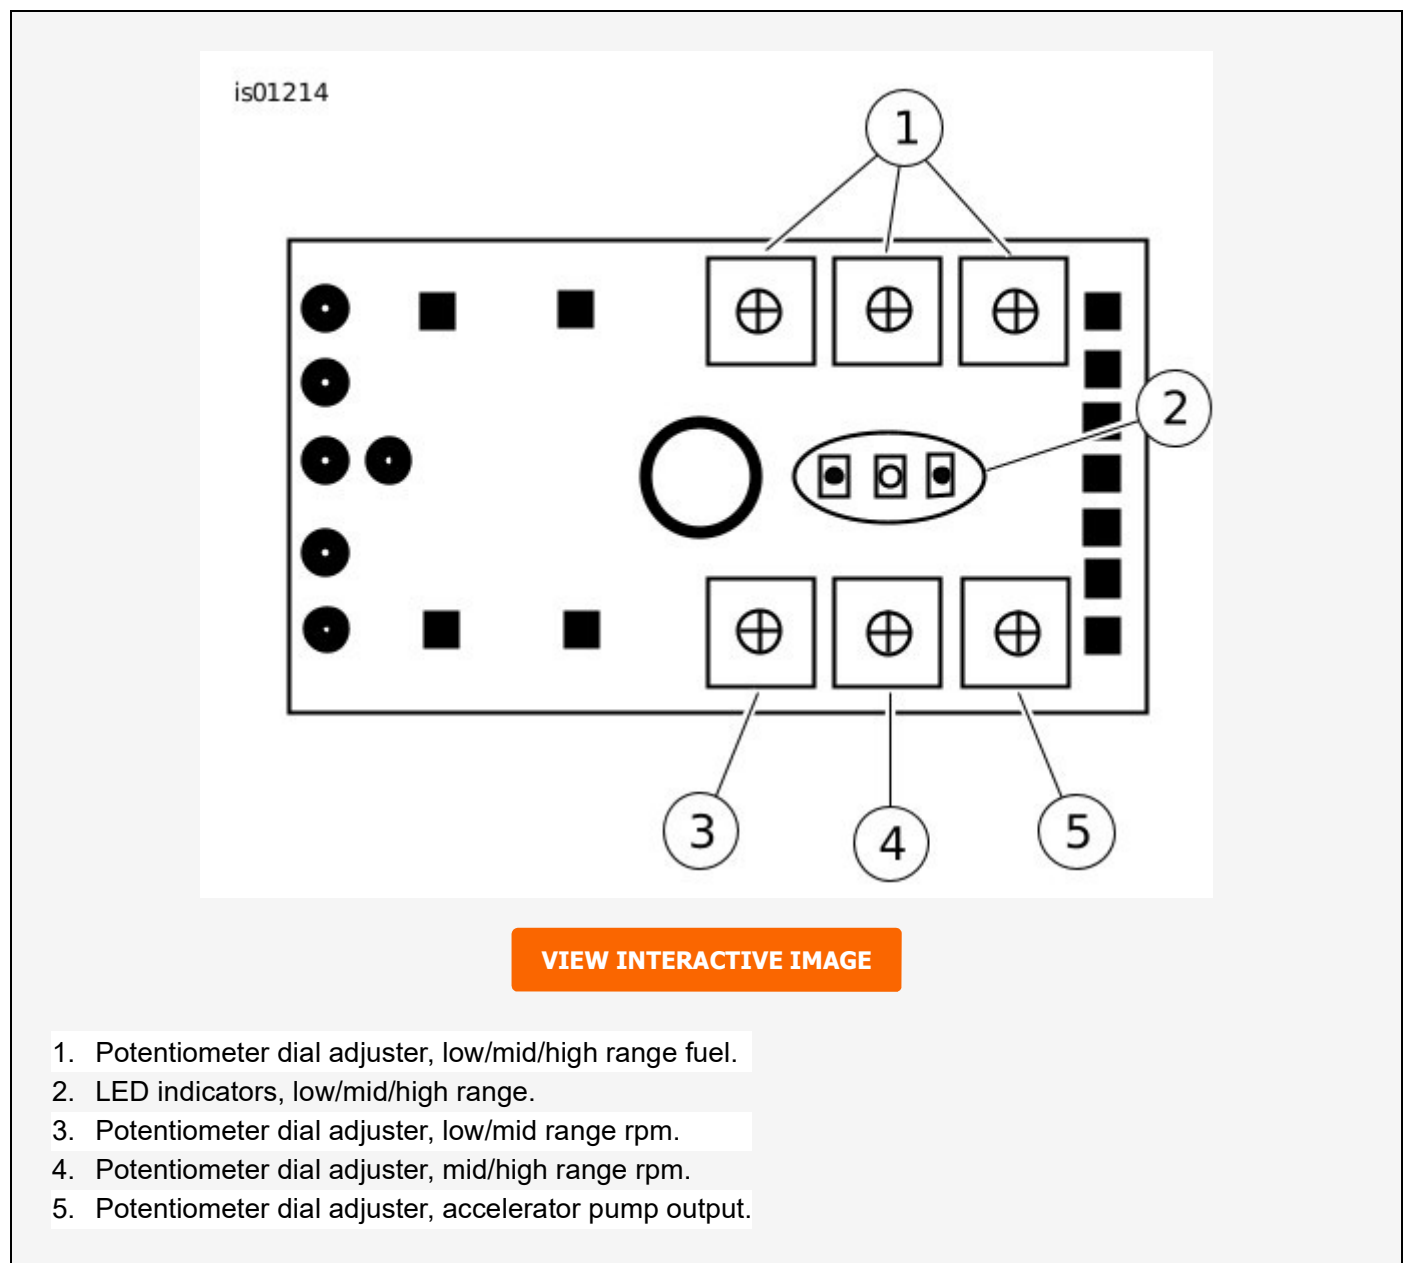

Figure 7. Race Fueler Box
1. See Figure 7. The race fueler box is powered when the ignition key is turned to ON. All three LEDs (2) will flash rapidly together for about one second. This indicates that the race fueler box has power and that all three LEDs are operating.
1. See Figure 7. The race fueler box divides the engine rpm range into three segments, which are selected by two potentiometer dial adjusters. The RPM segment ranges are:
- a. Low to mid potentiometer dial adjuster (3): 900 to 3500 RPM
- b. Mid to high potentiometer dial adjuster (4): 4500 to 7100 RPM
See Figure 8. Each of three RPM ranges has a corresponding fuel adjuster (LOW, MID, and HIGH) (Figure 7 , Item 1). When the engine is running in a particular RPM range, adjusting the fuel potentiometer dial adjuster for that range can change from -10% to +40% fuel. The race fueler box uses a load-based algorithm that tracks exactly how much fuel the PCM is calling for, and changes the fuel percentage based on the potentiometer dial adjuster setting. The fuel adjustment is linear.
See Figure 7. Use the AE potentiometer dial adjuster (5) to eliminate stumble when opening the throttle. The AE fuel is added only when the race fueler box detects a sudden increase in engine load and acts like an accelerator pump on a carburetor. The fuel is added over a brief period of time and the amount of fuel is adjusted from 0% to 100% by the AE potentiometer dial adjuster.